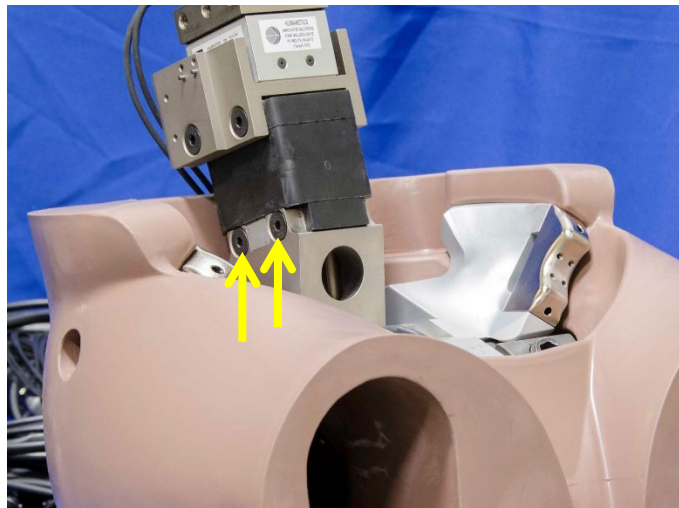

Figure 10-47. Install lumbar flex joint assembly to pelvis mounting block
- 10.2.3.5 Install the Lumbar Flex Joint Assembly (472-3746) to secure the spine to the pelvis/lumbar mounting block using four M8 x 1.25 x 20 FHCS, two on each side of the flex joint (Figure 10-47).